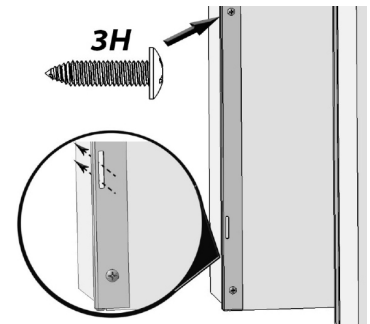

Fig. 19
- Using eight 3H screws and a power drill, attach the two Side Trim Attachment brackets to the front left and right cabinet cut-out edges with the brackets touching the floor (Fig. 19). Ensure the rectangular slots extend over the cabinet edge.